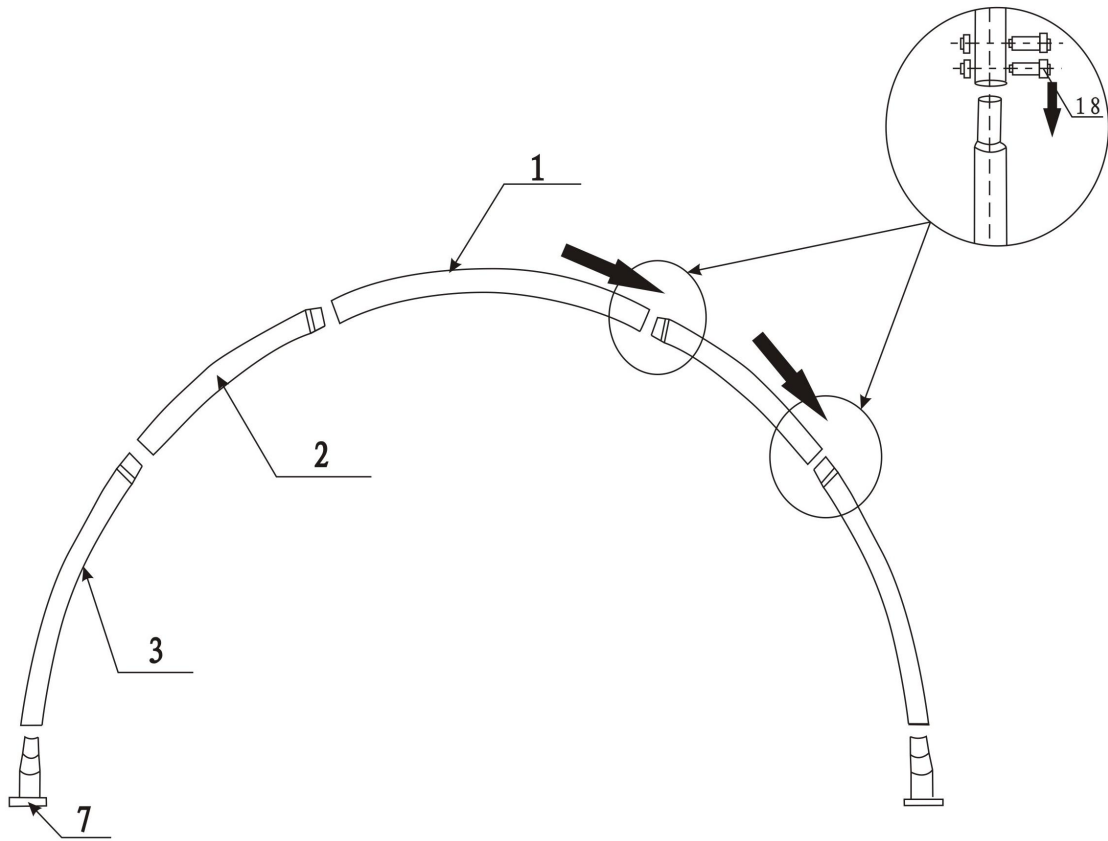

Figure 4
1. As Figure 4 shown find Roof Bent Tube (No.1), Middle Bent Tube (No. 2) and Lower Bent Tube (No. 3) and assemble every group arch with Screw M8x70 (No.20) DO NOT installs the screws on the top of the truss where the fabric will rest.